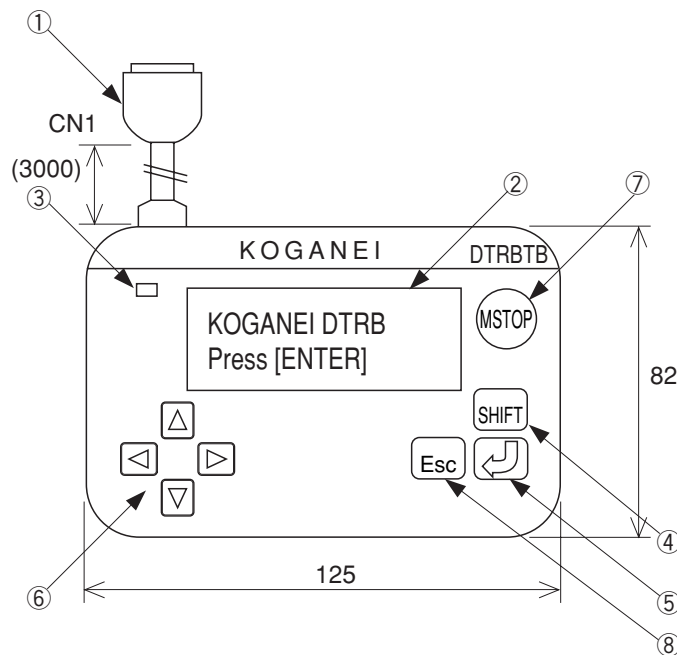

Figure 2 External appearance and functions of each part
- Power is being supplied normally if the Power LED (number ③ in Figure 2) on the teaching box lights up and stays on.